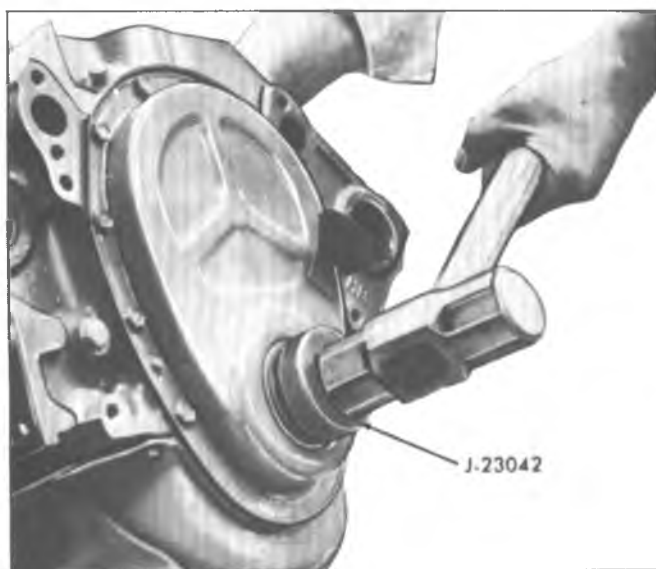

Fig. 20V—Installing Oil Seal (Cover Installed)
2. Install new seal so that open end of seal is toward the inside of cover and drive it into position with Tool J-23042 on Small V8 engines or Tool J-22102 on Mark IV V8 engines (fig. 20V).